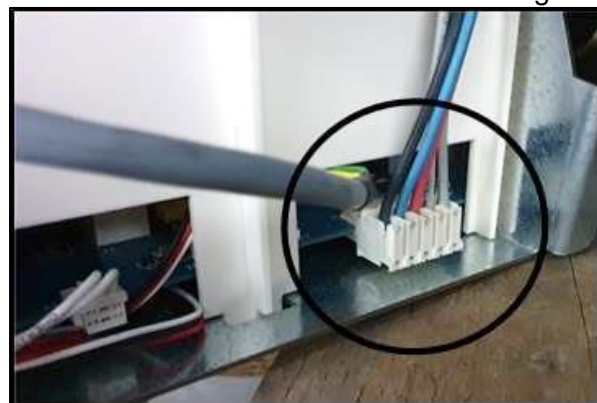

Fig. 2.3
5. Disconnect the cables that connect the inverter to the motor (Fig. 2.3).